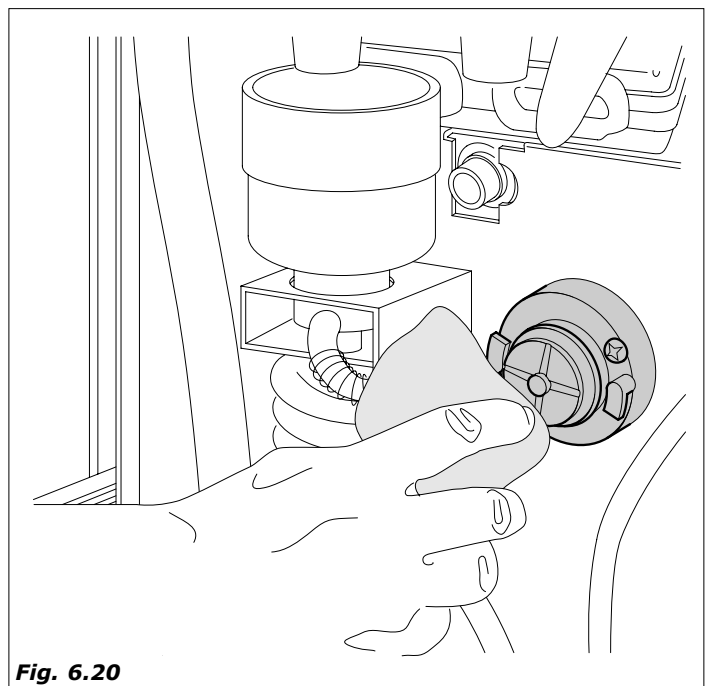

Fig. 6.20
- with a cloth soaked with the solution clean the whipper assembly base (Fig. 6.20)